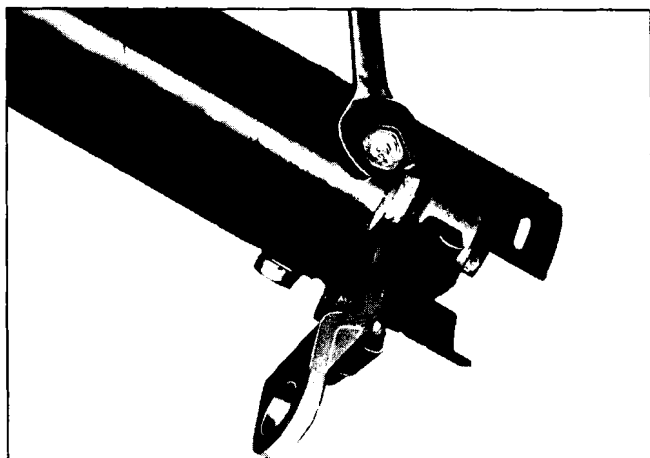

Fig. 9-49 Removing Lower Shift Tube Support Screws - Manual Transmission
6. Remove three screws from shift tube support at lower end (Fig. 9-49).